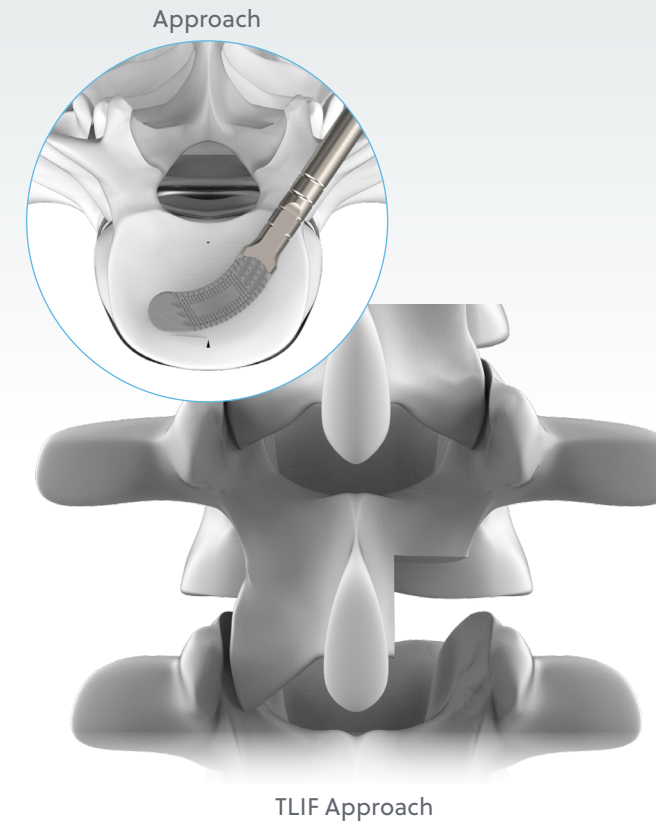

Figure 4
- Utilizing osteotomes and rongeurs, a small section of the lamina and facet(s) should be removed to create an appropriately sized bony window for access to the targeted disc space (Figure 4)